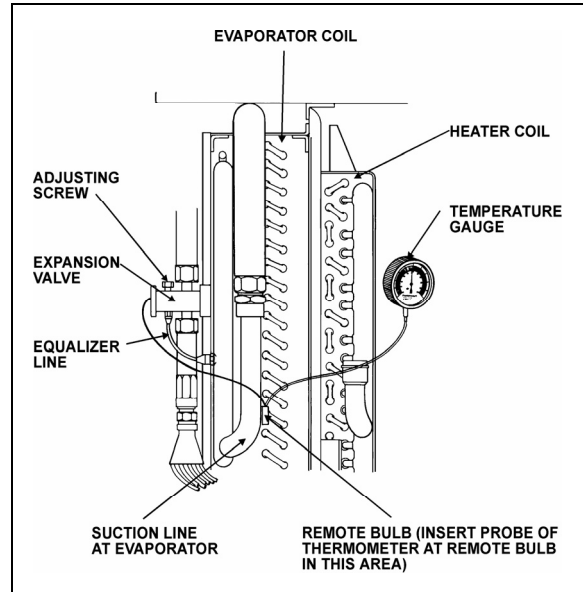

FIGURE 38: SUPERHEAT ADJUSTMENT INSTALLATION²²⁰⁴⁶
The starting method of adjusting the superheat is to unscrew completely the main evaporator expansion valve adjusting screw, then screw in 13 turns clockwise for 134A (Fig. 38). Afterwards, the following procedure should be followed:
3. Install a remote reading thermometer to the evaporator outlet line near the existing remote bulb (Fig. 38).